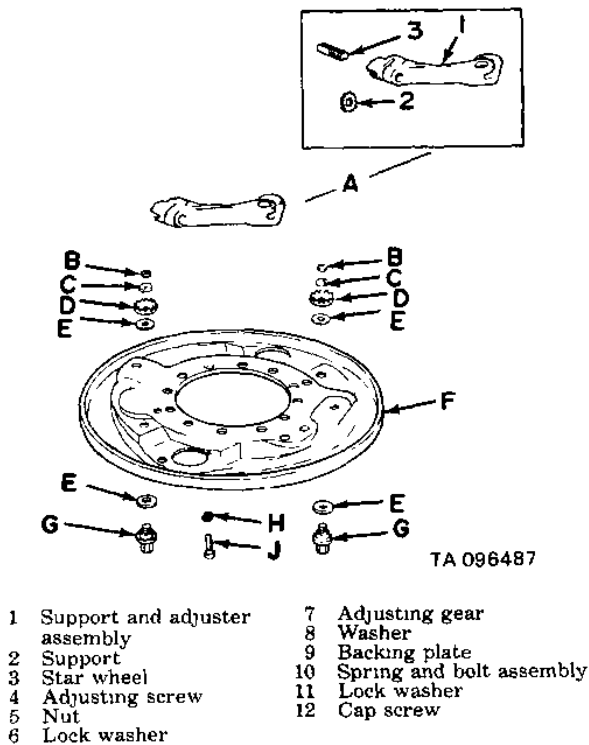

Figure 4-30. Brake backing plate - exploded view.
*a. Removal (fig 4-30).*
(1) Scribe alinement marks on support and adjuster assembly and brake backing plate and axle flange to insure proper installation.
#### b. Inspection and Repair (fig. 4-30).
#### c. Installation (fig. 4-30).